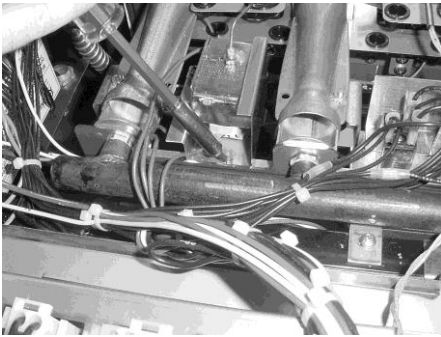

Figure 2-4
3. Remove the screw securing the high limit bracket to the frame and remove the high limit and bracket from unit. Figure 2-4.